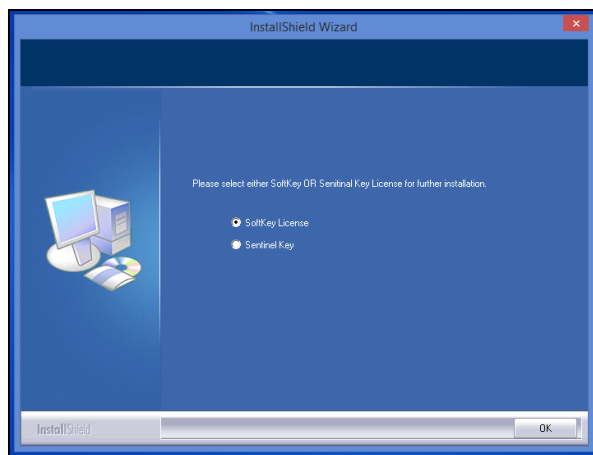

Figure 4. Software Key License
- a. If the user has a HunterLab USB hardware key, then it can be used with a new sensor on the same computer. Return to Install the Software, Step 5 (Figure 4) and select the Sentinel Key to continue.